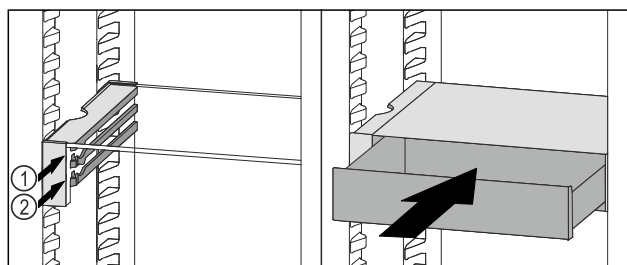

Fig. 111
- Place the VarioSafe drawer behind the stoppers on desired rib *Fig. 111 (1)* or *Fig. 111 (2)*.